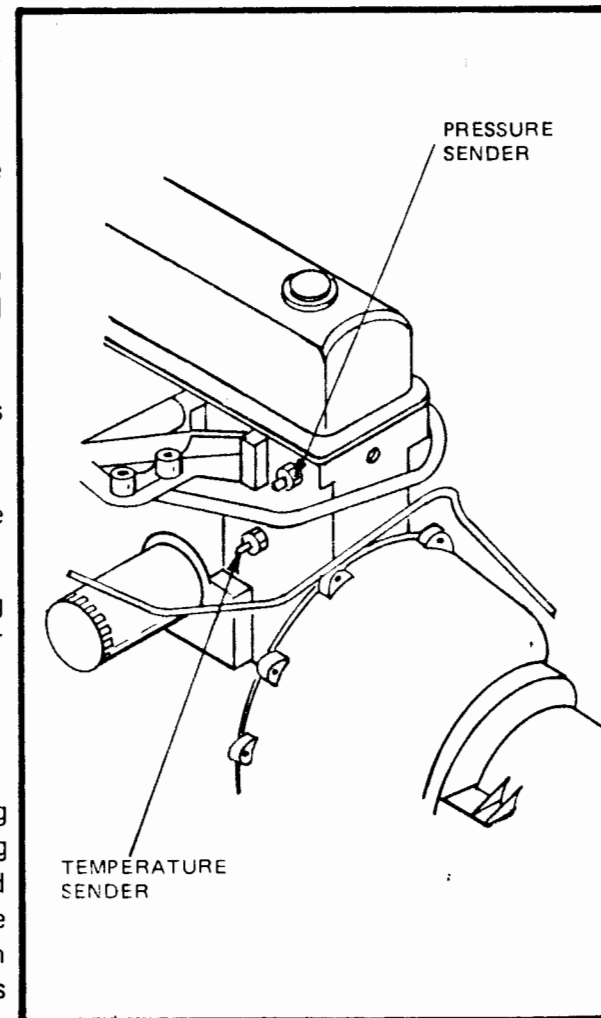

Figure 17
- SENDER INSTALLATION** - If using our gauges or other gauges requiring different senders remove the Ford senders from the engine and replace them with the ones supplied with your gauges. The pressure sender is installed in the cylinder head while the temperature sender is installed beneath it in the block. (Figure 17)